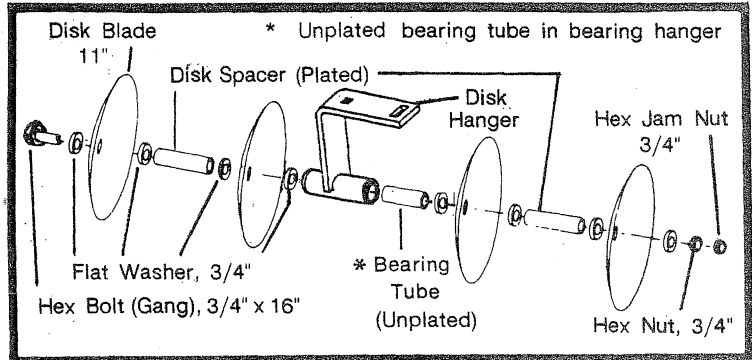

Fig. 1
Refer to Fig. 1
- Assemble both Disk Gangs as described in Fig. 1.